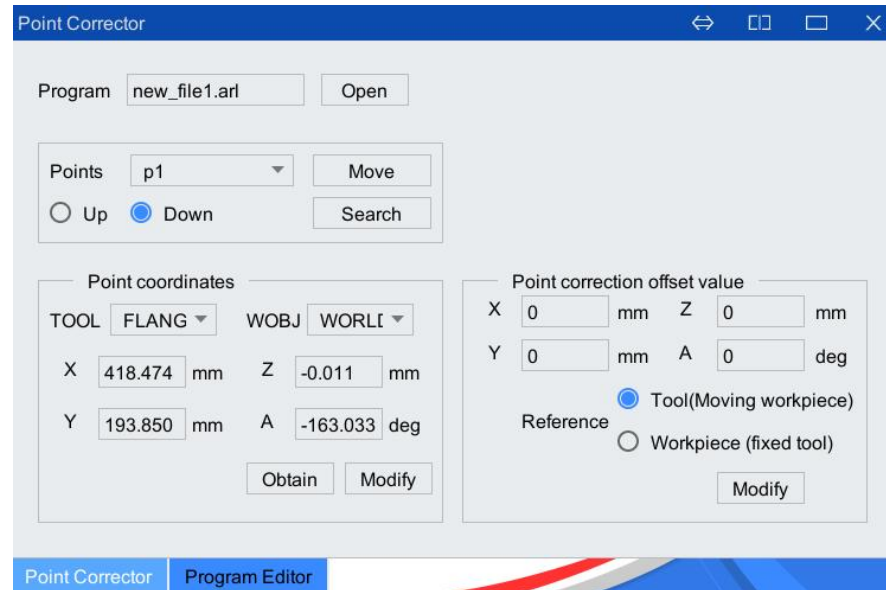

Figure 5-74 Modify the point coordinates through the "Point Correction Offset Value" area box
the current point is offset relative to the workpiece coordinate system. The offset value only supports the input of position data XYZ, as shown in Figure 5-74 shown.
- Step1. Select the point you want to move to in "Point List" in Figure 5-74.